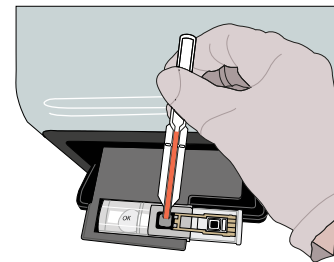

Figure 18. Sample transfer to cassette
14. Place the tip of the sample transfer device into the sample application hole of the Labmaster LUCIA™ Vet cassette so that it contacts the membrane. See Figure 18.